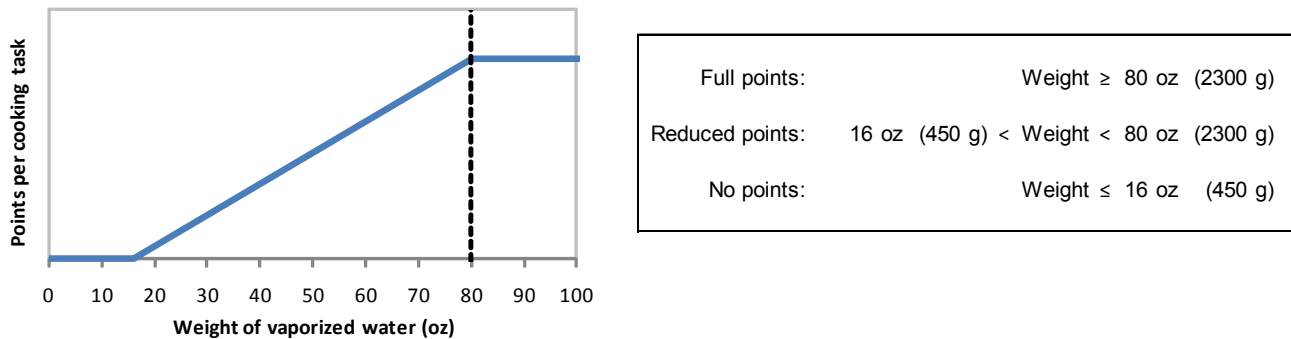

Figure 9: Scoring function for the Cooking Subcontest
- a. Reduced points are earned if between 1.000 lb (16.00 oz or 0.454 kg) and 5.000 lb (80.00 oz or 2.268 kg) are vaporized. Reduced point values are scaled linearly, as shown in Figure 9.